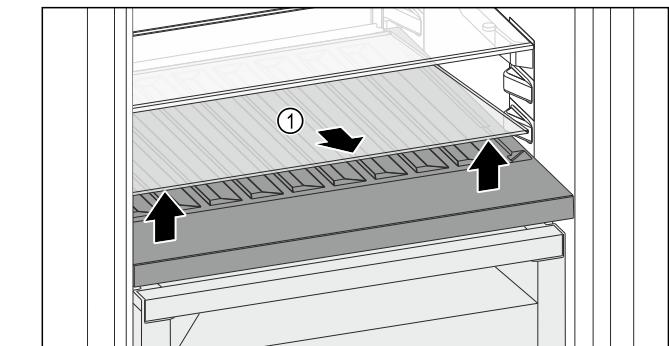

Fig. 80
- Lift the glass shelf Fig. 80 (1) at the front and remove.
- Store the glass shelf Fig. 80 (1) in a safe place outside the appliance.